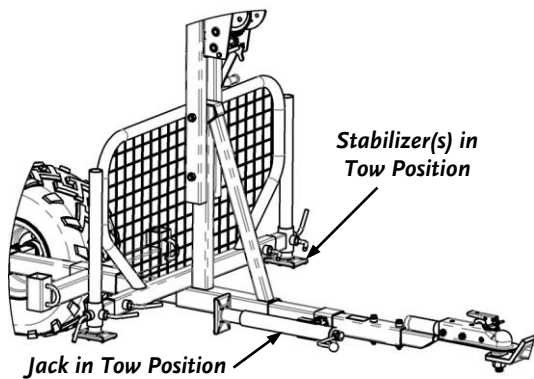

Figure 42
- Loosen the Locking Handles for the Stabilizer Legs and raise them to the highest position for towing. Re-tighten the Locking Handles and rotate the Trailer Jack to the Tow position (**Figure 42**).